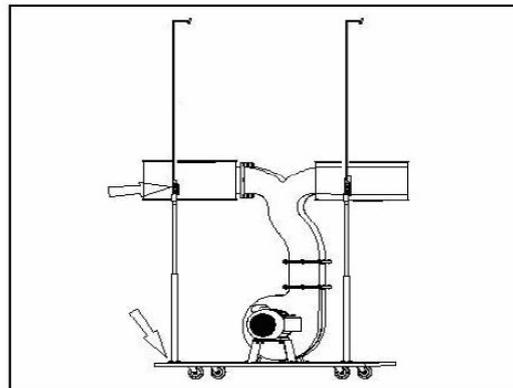

Fig 6
Install two collector supports (F) and two upper sack holders (E) as shown in Fig 6.